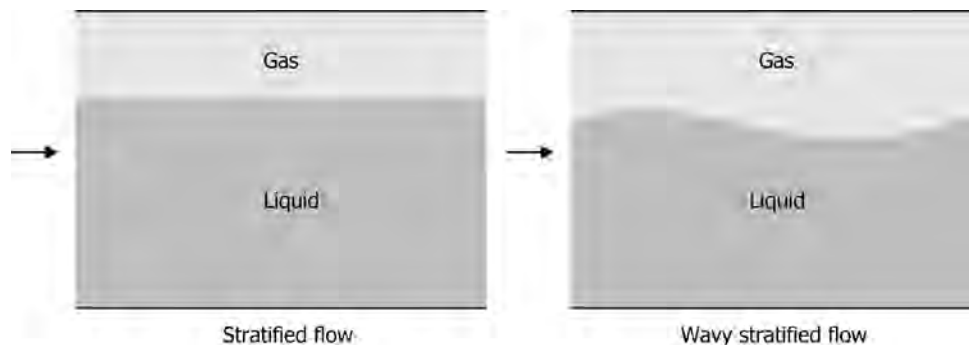

FIGURE 7.6 Stratified and wavy flows.
- Figure 7.6 illustrates these flow patterns.